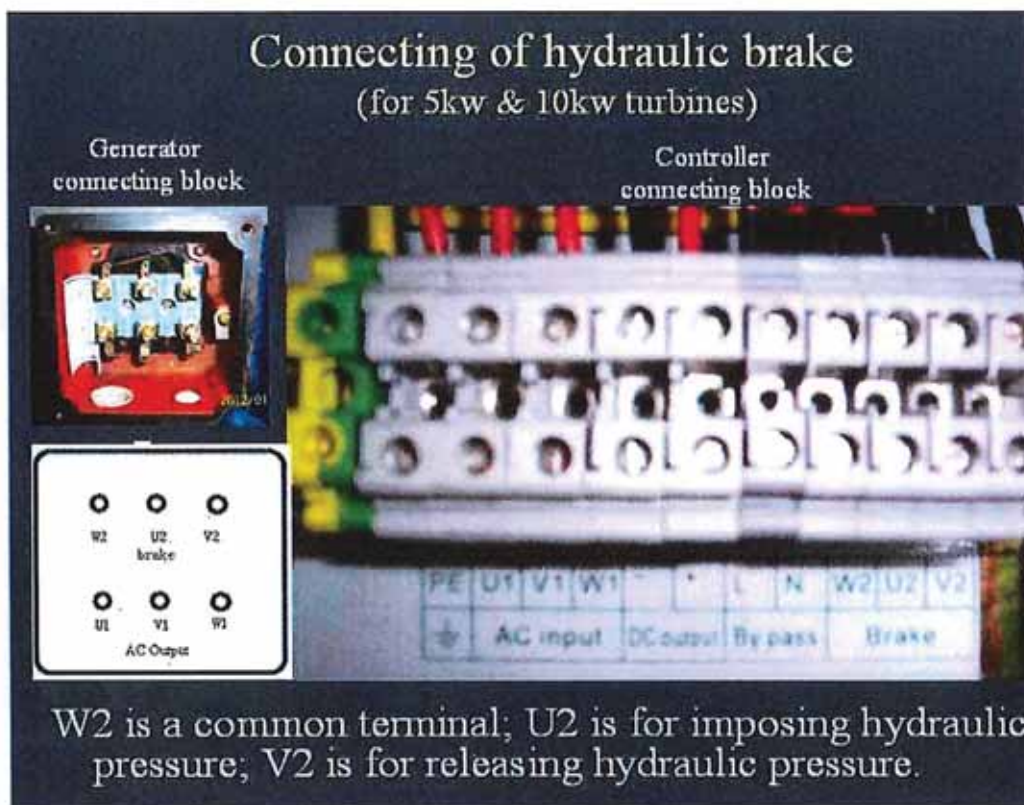

Figure 9
4.1.2 The procedure of connecting the cables to the controller is as follows, Refer to Figure 9